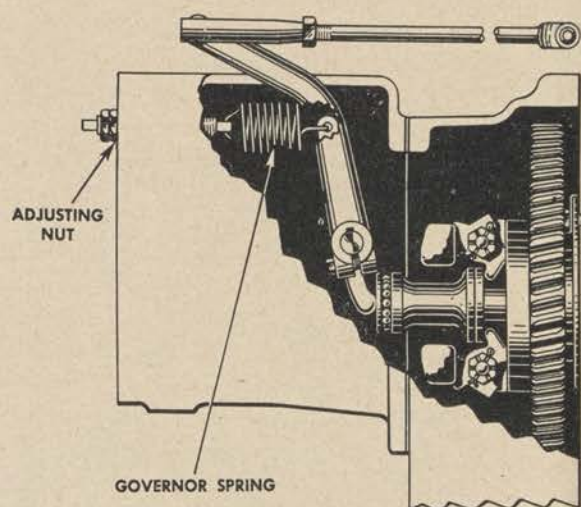

Figure 219. Governor control mechanism.
4. *High idle speed adjustment.* The high idle speed is controlled by the governor spring. (See fig. 219.) Increasing the tension on the spring increases the high idle speed, while decreasing the tension decreases the speed. Loosen the lock nut and turn the adjusting nut on the front of the governor spring housing until the correct idle speed of 2,850 rpm is obtained. If the starter pinion latches disengage before the Diesel engine starts, adjust the starter pinion latches ((7) below). If the governor has a tendency to "surge" or "hunt," the condition can